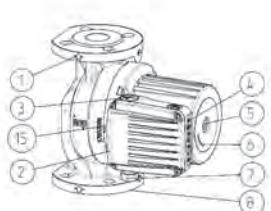
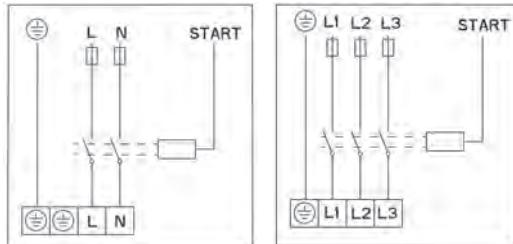

Fig.1
Fig. 3
- The pump should be incorporated into piping system with the pump axis 1-1 in horizontal position (Fig. 3).
- Direction of water flow through the pump should match with direction, indicated by an arrow on the pump casing (Fig.1-POS.1).
- The connecting flanges are designed for nominal pressure NP 6/10 (Fig.1 – POS.8).
- GHN (basic, auto), GHNM (basic, auto) pumps have a single hydraulic casing (Fig.1 – POS.8).
The hydraulic casing of the pump can be insulated only to the cleft between the motor and the hydraulic casing. Openings for condensate drainage should remain uncovered and enable the drainage from the stator housing. Similarly, the same openings must be uncovered also in heating systems, when only thermal insulation of hydraulic casing is implemented (Fig. 1, 2, POS. 15). Electric motor casing, on which the openings for condensate drainage are located, under no condition should not be insulated!
The connecting wire has to be connected over a cable entry M20 (Fig.1 – POS.7).
Electrical connections of the pump must be carried out in accordance with the wiring diagram (Fig. 3), attached on the bottom of motor cover. Before doing that unwind the upper cover (Fig. 1 - POS. 2).
In the pumps of types GHN (basic auto), GHND (basic, auto), GHNMD (basic, auto), GHNMD (basic, auto) the rotor is submerged and provided with special water-lubricated bearings. Before putting the pump into operation, it has to be filled with water and deaerated. Deaerate the pump by unscrewing a screw on the back side of the electric motor (Fig.1-POS.5). Air will flow out through the cleft between the motor shaft and the bearing. When water starts to flow out, close the valves at both the suction and pressure side of the pump. Start the pump and check the direction of shaft rotation. In case of a wrong direction a built-in flash lamp will start to blink with red light.
6.2 Setting the speed for the pumps GHN, GHND, GHNM, GHNMD (basic) (① ② ③ ⏕)
Each pump is able to cover the areas of three hydraulic characteristics. To achieve this, it has an inbuilt electric motor with three different revolution speeds. For achieving the selected characteristics or speeds ① ② ③, the pump has a push button ⏕ (Fig.1-POS. 4), with which we change speeds.
Switch off the pump, close the valve on both pressure and suction sides of the pump, unscrew the vent for deaeration, place the screwdriver (Fig.1-POS.5) in the notch on the shaft and twist as long as friction forces allow. Then screw the vent for deaeration.